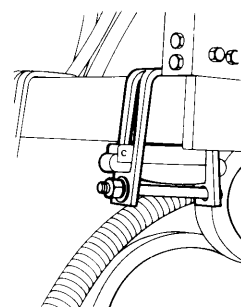

Figure 12
- 2/ Loosen the tine frame clamp retaining bolts. (see figure 12)
- 5/ Loosen the frame clamp retaining bolts on the coulters assemblies (see figure 12) and adjust so the coulters blades align with the soil openers.